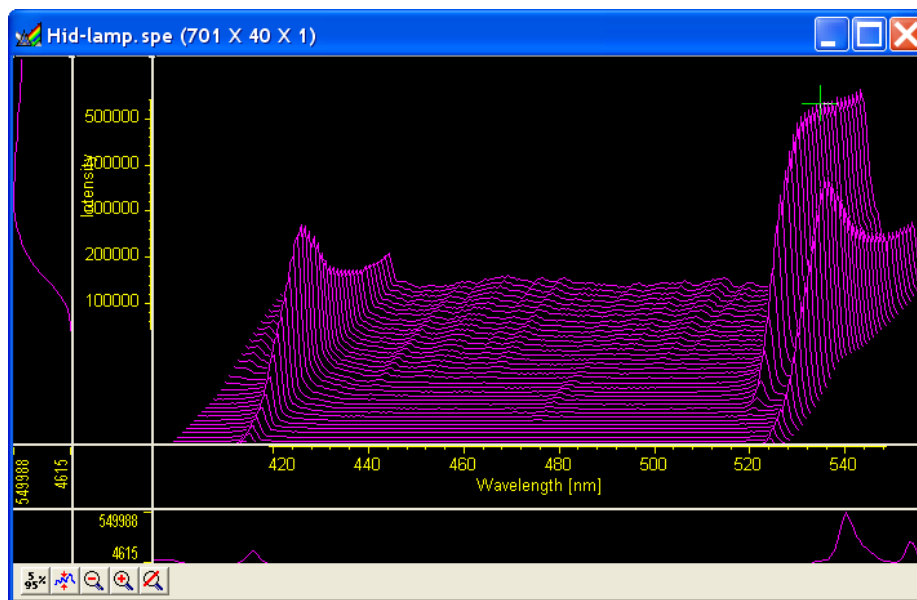

Figure 77. *Hide-lamp.spe* 3D graph expanded to show defined region
2. Click on  (Zoom In). The view will change so that only the selected region is displayed as shown in Figure 77.